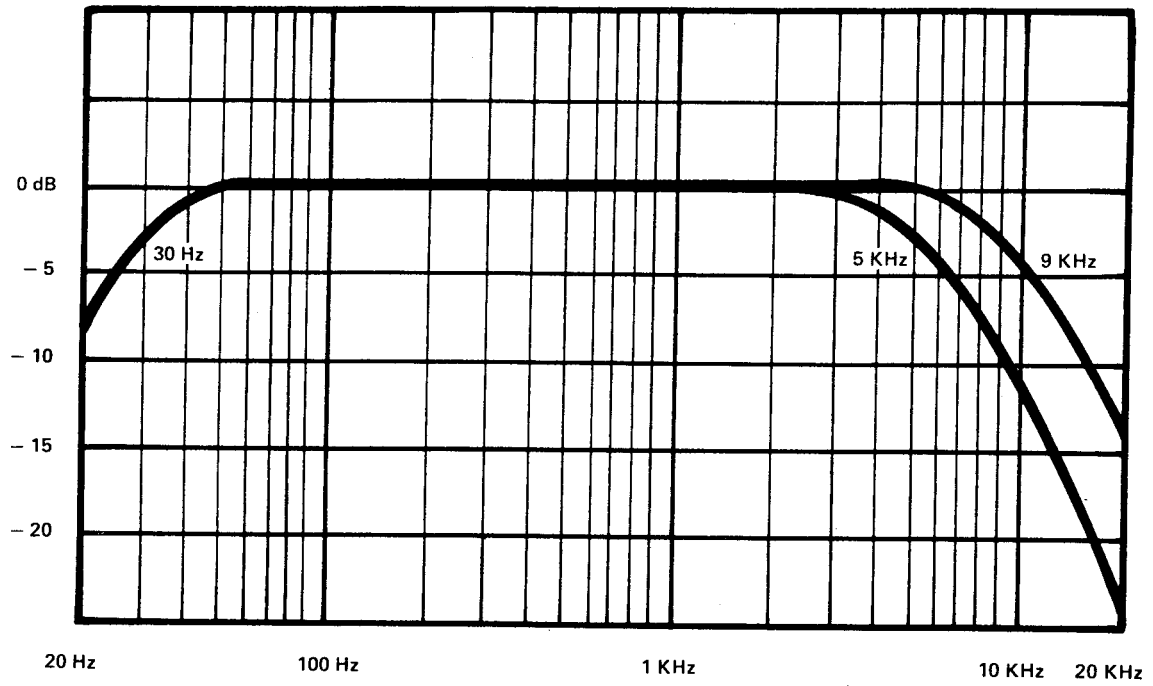

Figure 2-4 Active Filter Network Characteristics
- (1) Connect oscillator to left channel AUX INPUT Jack. Insert a shorting plug into right channel AUX INPUT Jack. Monitor signal at PREAMP OUTPUT Jack with AC VTVM.
- (2) Set oscillator frequency to 20 Hz. Set oscillator level for 0 dB, 3 V rms output as indicated on the VTVM.
- (3) Observe the output of the undriven channel on the VTVM. Output should be at least 40 dB below the 0 dB reference level indicating a 40 dB left - to - right channel separation.
- (4) Repeat test on right channel.
**K. FILTERS (Figure 2-4)**
- (1) Connect oscillator to AUX INPUT Jack. Depress AUX Selector Pushswitch. Connect AC VTVM to PREAMP OUTPUT Jack.
- (2) To establish a reference level, set oscillator frequency to 1 kHz, 0 dB as measured on the VTVM.
- (3) Depress 9 kHz FILTER Switch. With oscillator switched to 9 kHz input, output level should drop 3 dB ( $\pm 1.25$  dB). Depress and release FILTER switch.
- (4) Depress 5 kHz FILTER Switch. With oscillator switched to 5 kHz, output should drop 3 dB ( $\pm 1.25$  dB). Depress and release FILTER Switch.
- (5) Depress 30 Hz FILTER Switch. With oscillator switch set to 30 Hz, signal should drop 3 dB ( $\pm 0.75$  dB). Depress and release FILTER Switch.